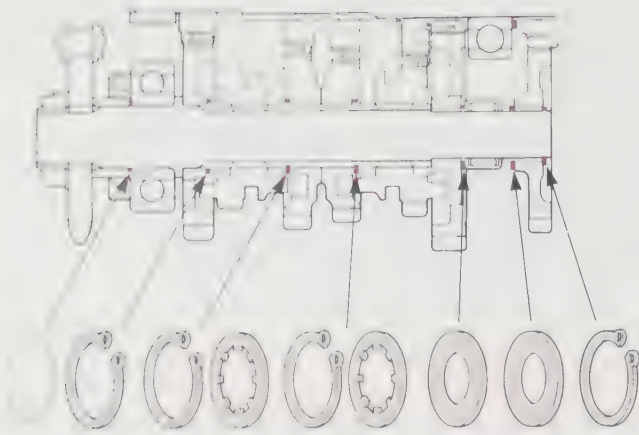

Figure 21-28. Make sure all circlips and washers are in their proper positions during transmission shaft assembly. (American Suzuki Motor Corporation)
4. Make sure shims, thrust washers, circlips, and gears are installed in proper order and direction, **Figure 21-28**.